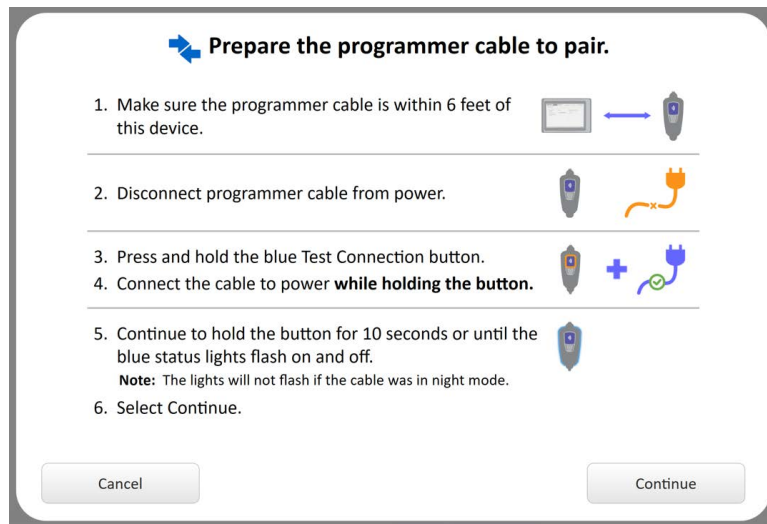

Figure 3-9. Pair a Programmer Cable Instructions
- c. Follow the on-screen instructions (Figure 3-9) to prepare the programmer cable, and then select **Continue**.